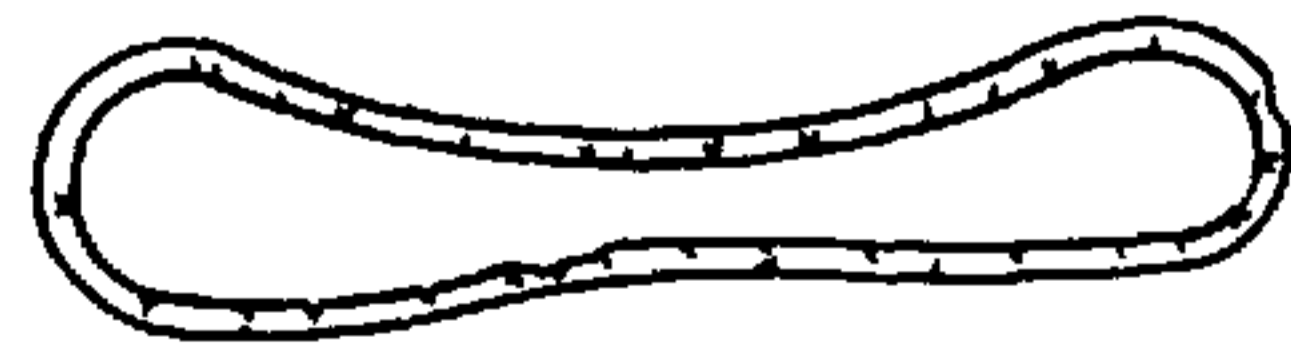

Figure I-4. Cracked Drive Belt.
6. A misaligned idler may also cause the belt to roll over on the pulley. A belt which has rolled over will have cracks throughout the length of the belt. Refer to Figure I-4. Once a belt has rolled over a pulley, it must be replaced.